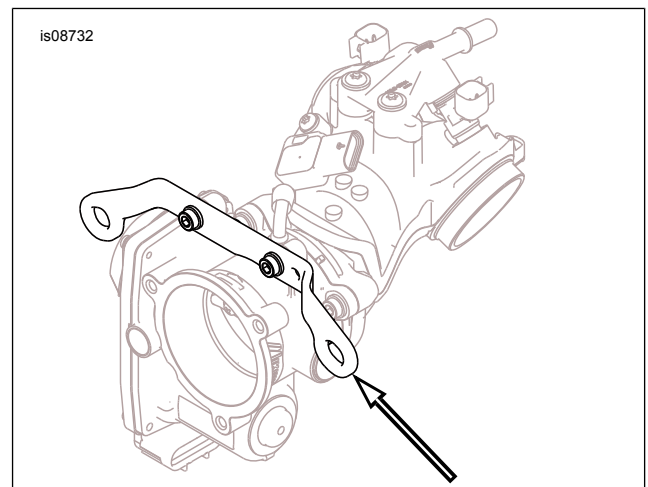

Figure 1. Remove Induction Module Support Bracket
2. See the service manual. Remove the original equipment (OE) air cleaner.
4. See Figure 1. Remove and discard the induction module support bracket.